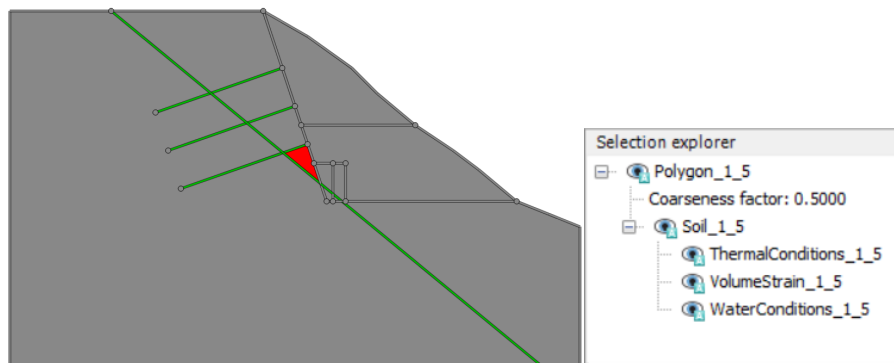

Figure 4-6: Refining the mesh for the selected soil polygon
2. Select the soil polygon enclosed between the lower slope, the discontinuity and the third cable row as shown in Figure 4-6 \(p. 80\). In the **Selection explorer** set the coarseness factor to 0.5.